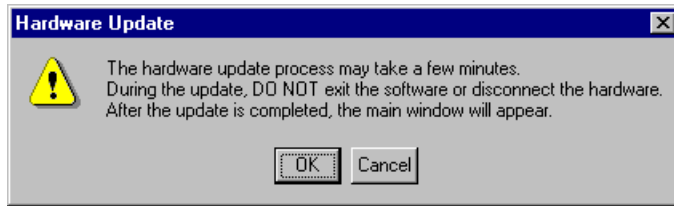

Figure 1-7. Hardware Update Dialog Box
2. **After reading the message in the Hardware Update dialog box, click OK as shown in Figure 1-7.**